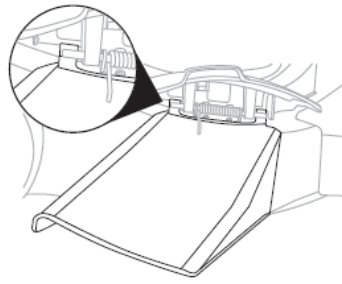

Fig.9B
4. Mount the side-discharge chute on the support pins of the sideward flap. (Fig.9B)